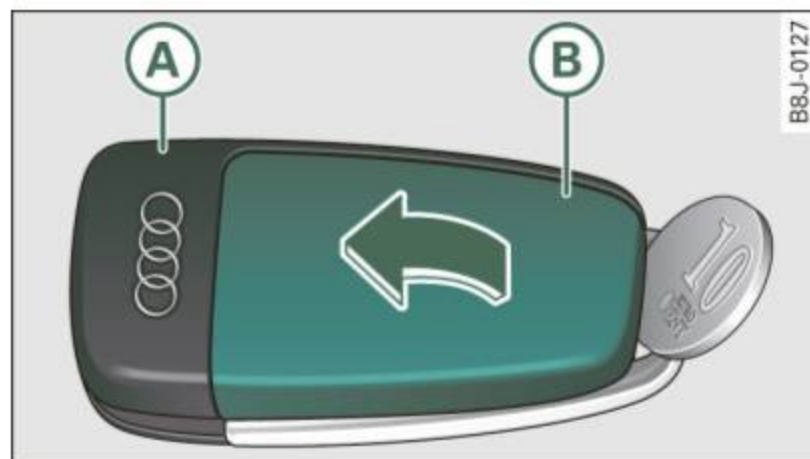

Fig. 28 Master key: opening the cover
- Pry apart the base ⇒ fig. 28 **A** and the cover **B** **carefully** with a coin.